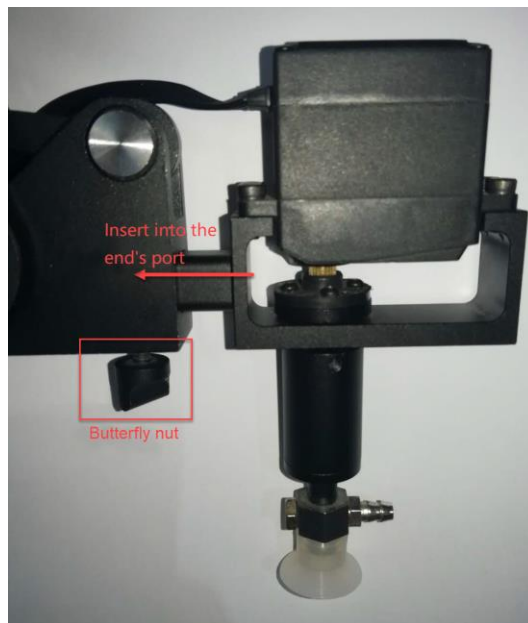

Figure 5.8 Install a suction cup kit
Step 2 Insert a suction cup kit into the end's port, and fasten it with clamp fixing screw, as shown in Figure 5.8.